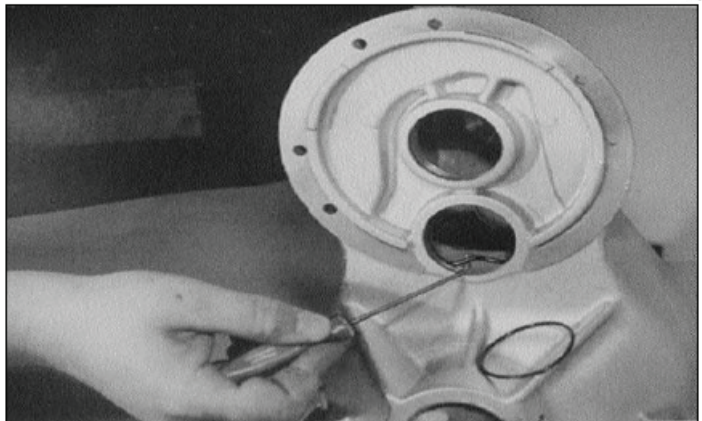

Figure 7-21. Removing O-rings
19. Remove O-rings from outer input bearing bore and both intermediate bores. See Figure 7-21.
5. Install outer snap ring (16) at input shaft bore. See Figure 7-21.
6. After O-rings (10) are installed on shaft (9) and housing (1), install intermediate shaft and gear assembly (9) through bottom opening in housing.